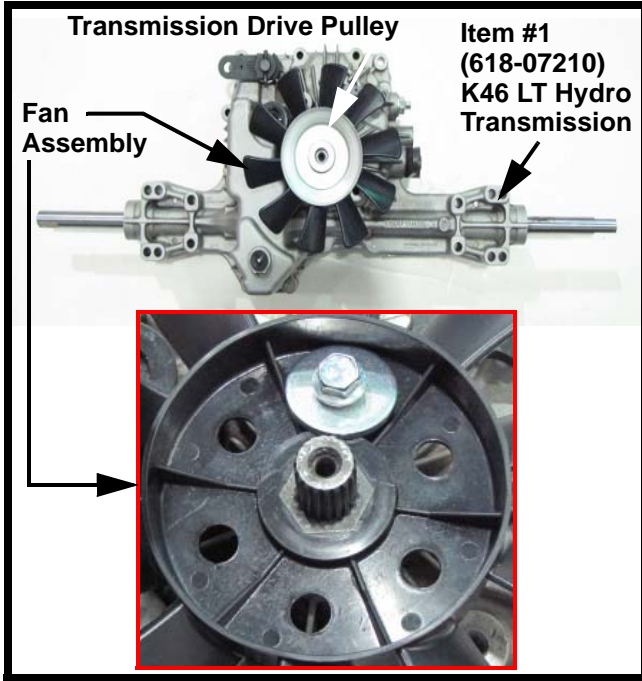

FIGURE 2
3. Remove the hex screw, lock washer and flat washer from the hole in the fan assembly on the K46 LT Hydro Transmission. See Figure 2.